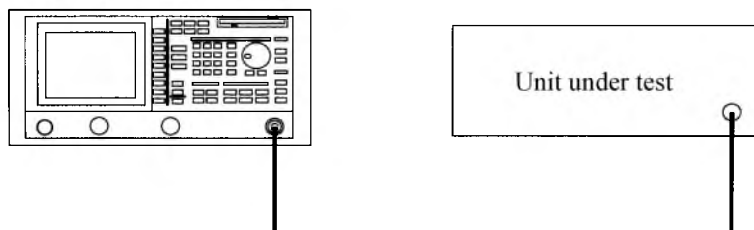

Figure 2-81 Setup for Measuring the Harmonic Distortion
1. Connect the unit under test as shown in Figure 2-81.